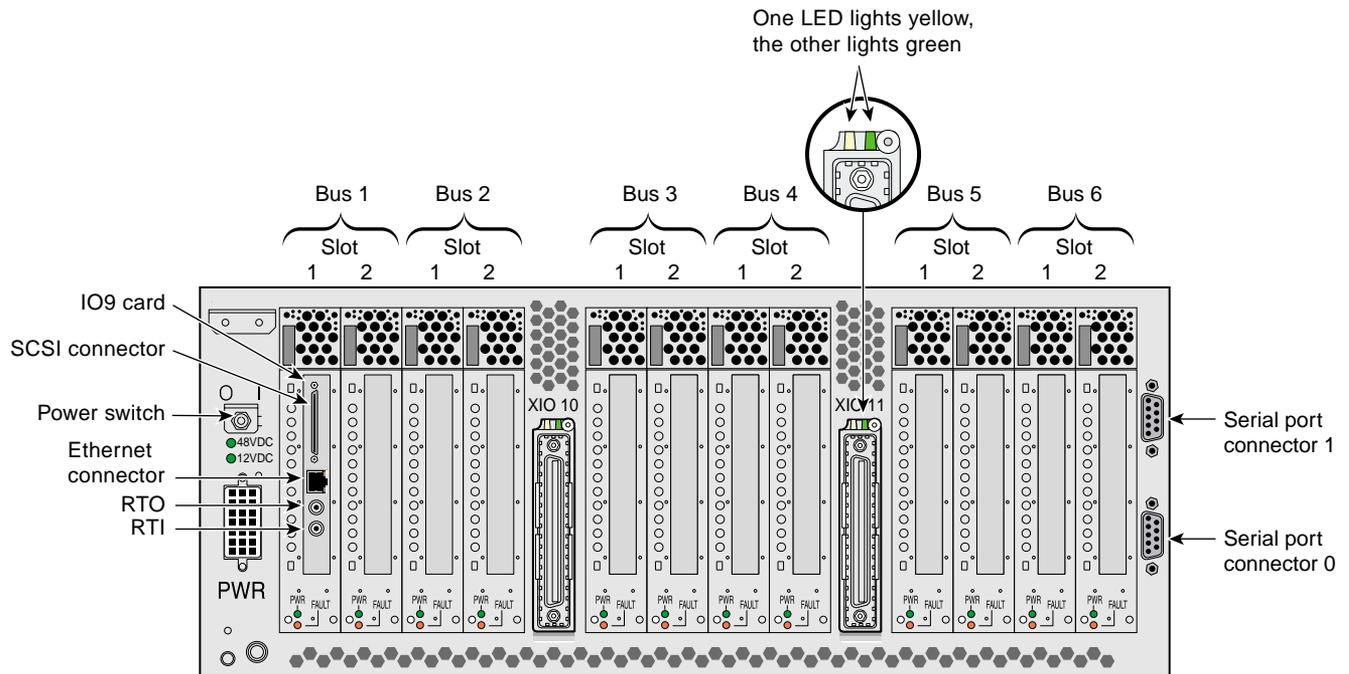

Figure 6 Rear Panel of IX-brick
Figure 6 shows the location of the rear panel items of the IX-brick.
- **PCI/PCI-X slots.** Use these slots to install or replace PCI or PCI-X cards in your system. See “Installing PCI and PCI-X Cards” on page 11. The card slots are numbered bus 1 through bus 6. Each bus has two slots, labeled 1 and 2, as shown in Figure 6.